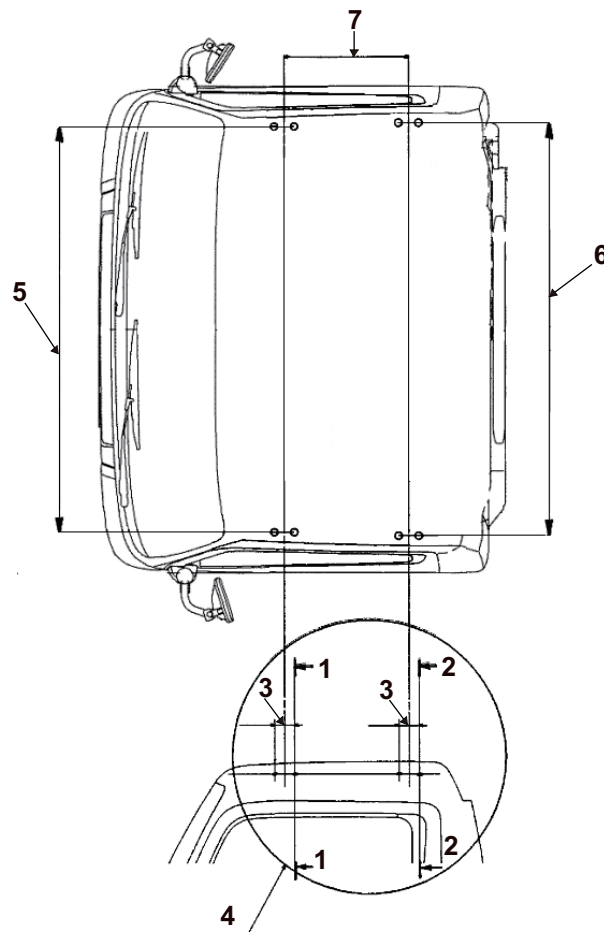

Fig. 1
- The total weight of externally mounted parts attached to the roof cannot exceed 50 kg {110 lb}. (See Figs. 1, 2 and 4.)